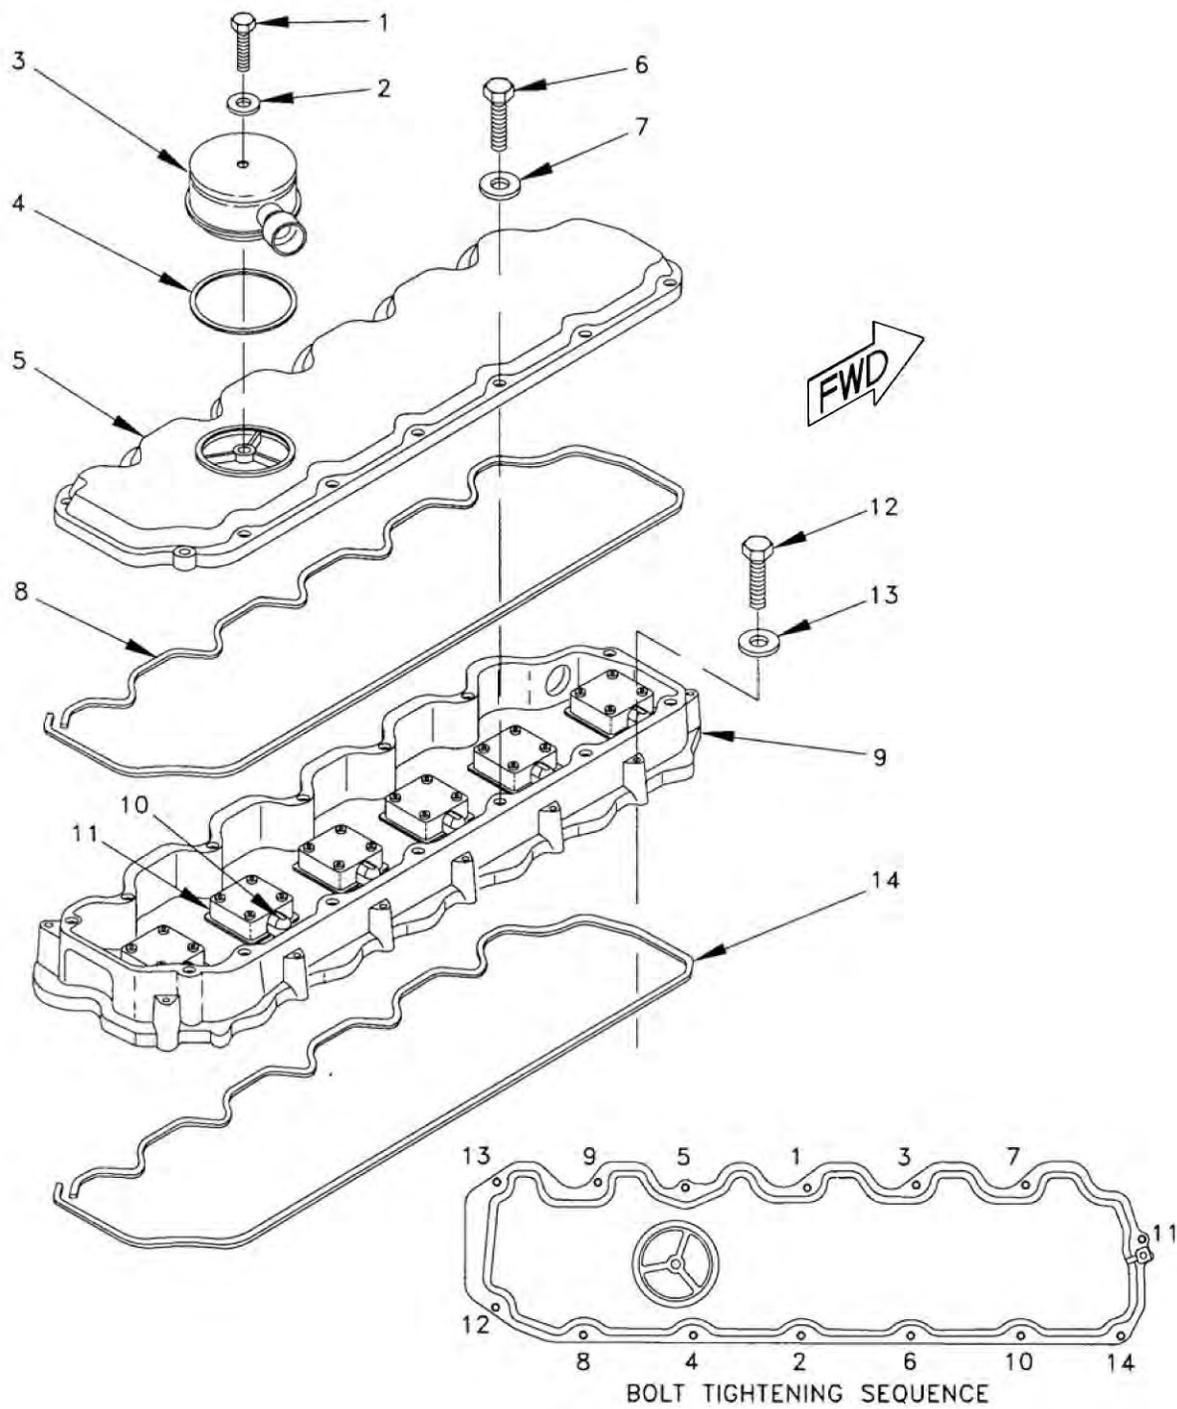

Figure 1. Valve Cover, Gasket, and Manifold.
1. Remove bolt (Figure 1, Item 1) and washer (Figure 1, Item 2), and pull breather (Figure 1, Item 3) and gasket (Figure 1, Item 4) away from valve cover (Figure 1, Item 5).
2. Remove 14 bolts (Figure 1, Item 6), washers (Figure 1, Item 7), valve cover (Figure 1, Item 5), and gasket (Figure 1, Item 8).
3. Disconnect unit injector plug from wiring harness at left front of valve cover manifold (Figure 1, Item 9).
4. Disconnect plug (Figure 1, Item 10) from each of six unit injectors (Figure 1, Item 11).
- Remove 14 bolts (Figure 1, Item 12), washers (Figure 1, Item 13), valve cover manifold (Figure 1, Item 9), and gasket (Figure 1, Item 14).
1. Remove remaining gasket material from cylinder head, top and bottom surfaces of valve cover manifold (Figure 1, Item 9), and mating surface of valve cover (Figure 1, Item 5).
1. Apply bead of sealing compound to both sides of new gasket (Figure 1, Item 14).
2. Install gasket (Figure 1, Item 14), valve cover manifold (Figure 1, Item 9), fourteen washers (Figure 1, Item 13), and bolts (Figure 1, Item 12). Using the illustrated sequence, torque bolts (Figure 1, Item 12) to 79-133 lb•in (9-15 N•m).